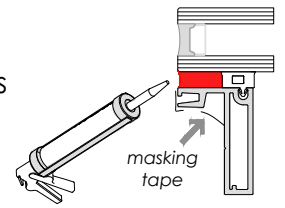

FIG. 5
- Fill cavity of glass with structural silicone. Tool silicone, eliminate all air pockets assuring glazing pocket is filled. See FIG 5.